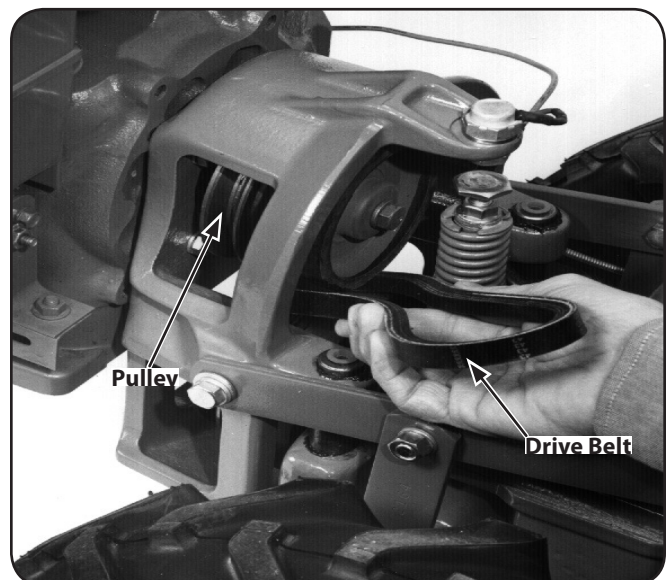

Figure 7-4
6. Push the Wheels/Tines/PTO Drive Lever down into the FORWARD position. This increases the distance between the upper and lower pulleys. Next, lift and pull the entire belt out from between the pulleys. See Figure 7-4.
8. Squeeze the belt in the middle and insert one end in between the pulleys. See Figure 7-4.